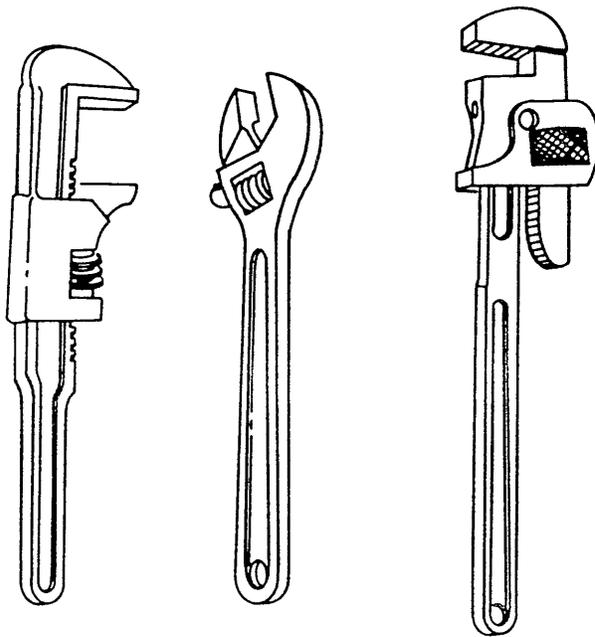

Figure 4-25. Adjustable Wrench
(4) **Adjustable wrench.** Adjustable wrenches include crescent, auto, and pipe wrenches, shown in figure 4-25. These wrenches are generally intended for use on odd-sized nuts and bolts, and are adjusted by a knurled worn gear, which moves the movable jaw to fit the part. Adjustable wrenches are available in sizes ranging from 4 to 24 inches in length. The jaw capacity is proportional to the handle length.